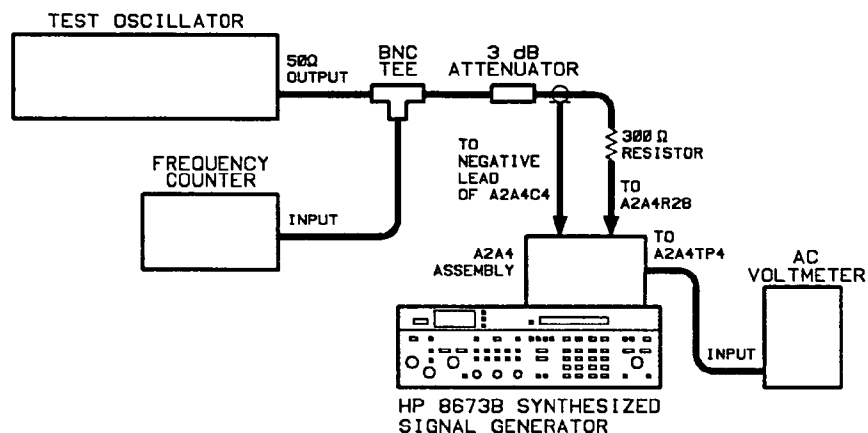

Figure 5-9. LFS Loop Notch Filter Adjustment Test Setup
5. Connect the equipment as shown in figure 5-9. The leads from the 3 dB attenuator should be as short as possible. Connect the ground wire to the negative side of A2A4C4.